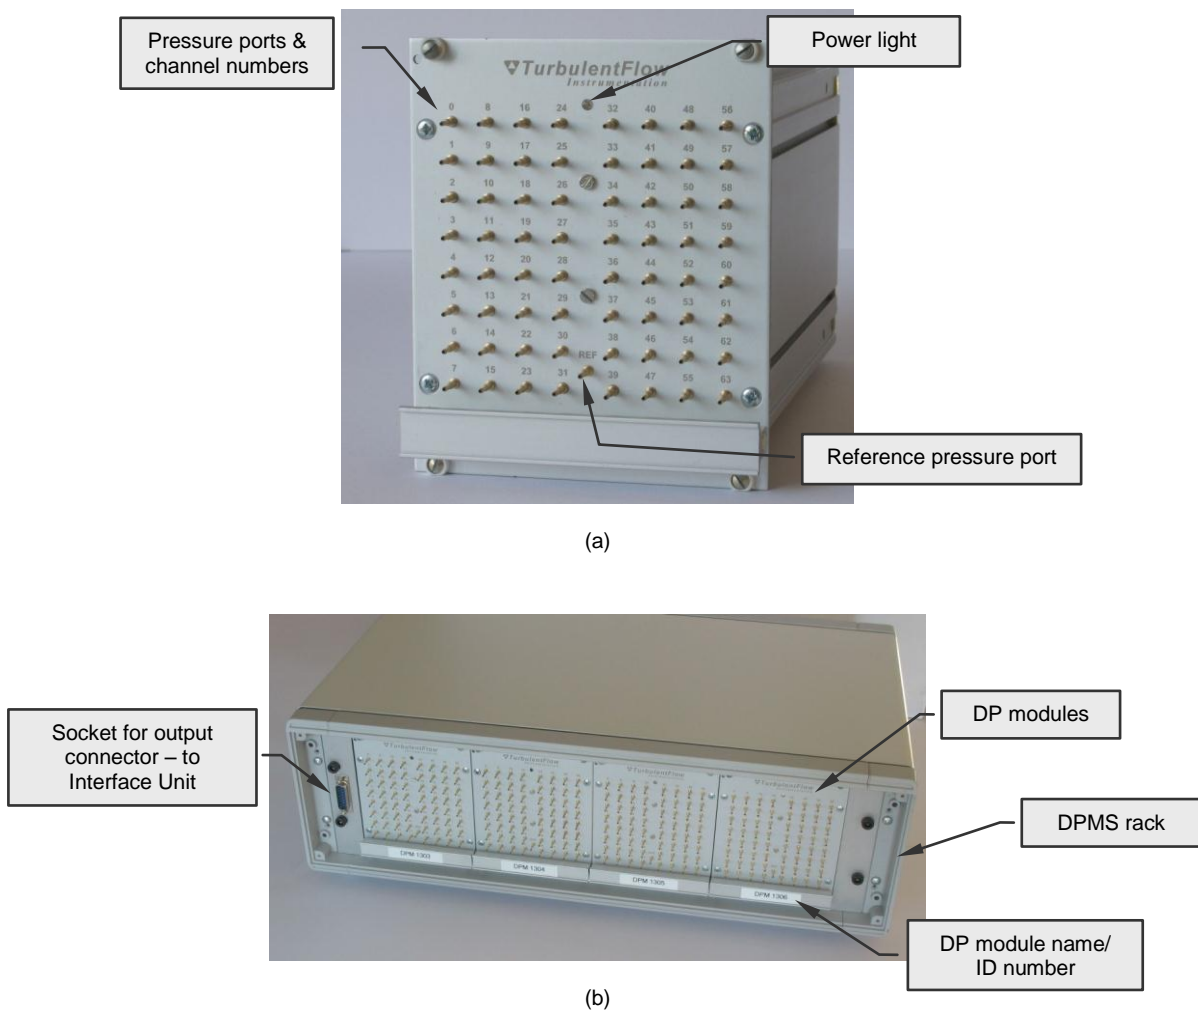
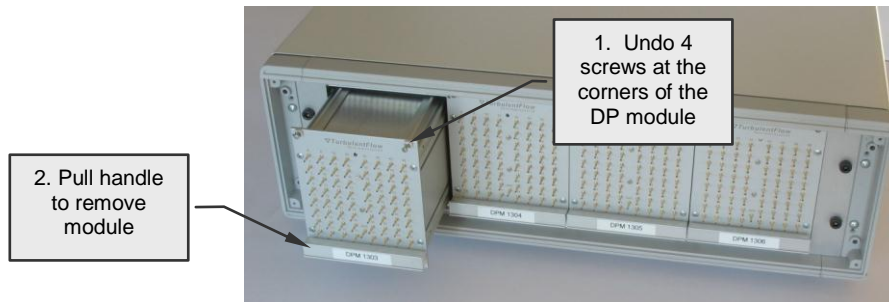

Figure 1: The main features of a DPMS: (a) a DP module; (b) a complete DPMS.
Figure 2: A DPMS rack showing a module being removed
The number of channels available in DPMS units varies from 32 to 1024, depending on the user requirements. The system is capable of a linear frequency-response from 0 Hz to several kHz and is available in various full-scale ranges. The measurement modules, or Dynamic Pressure (DP) modules, are supplied fully calibrated and ready to use. Figure 1 shows a diagram of a DP module and a complete DPMS. Figure 2 shows how a module may be removed from the DPMS rack.
The reference pressure port (see Figure 1) provides the common reference pressure for the transducers. Therefore, pressures measured by the DPMS are relative to the pressure applied at the reference port.